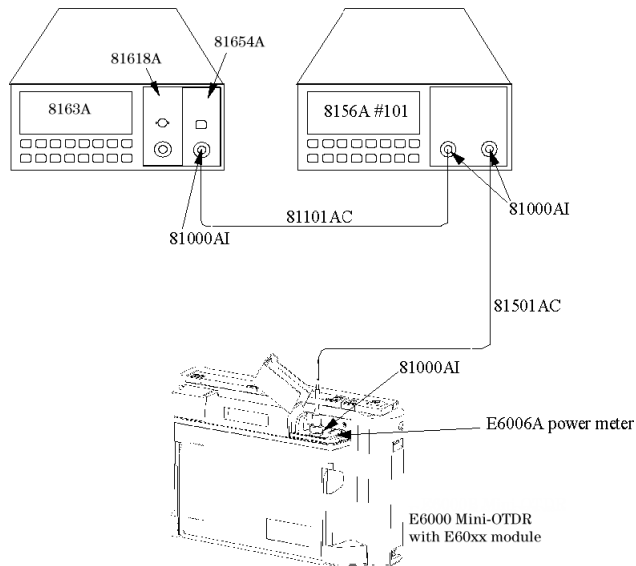

Figure 88 Test setup 1310 nm and 1550 nm: Measurement of the DUT
- Connect attenuator to DUT** **9** Connect the attenuator output cable to the DUT, as shown in Figure 88.
Connect attenuator to DUT 12 Connect the attenuator output cable to the DUT, as shown in Figure 88.